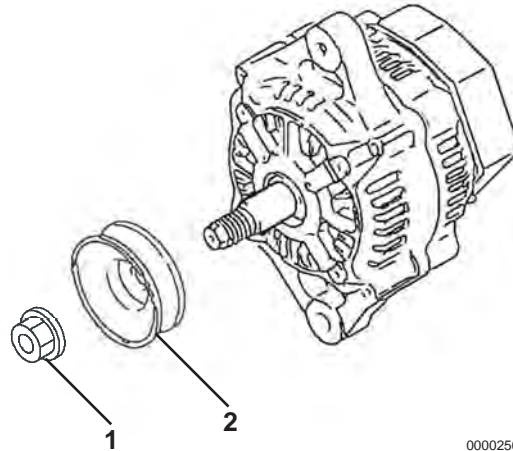

Figure 11-5
1. Remove the nut (**Figure 11-5, (1)**) from the shaft of the rotor assembly. Remove the pulley (**Figure 11-5, (2)**).